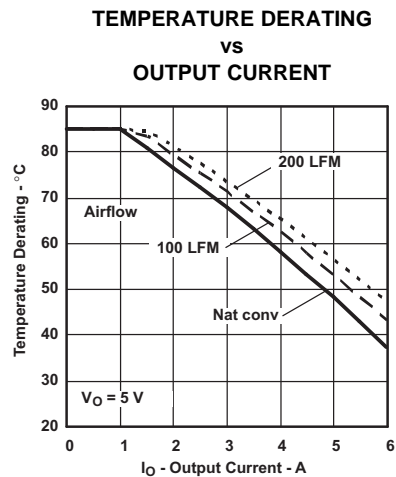
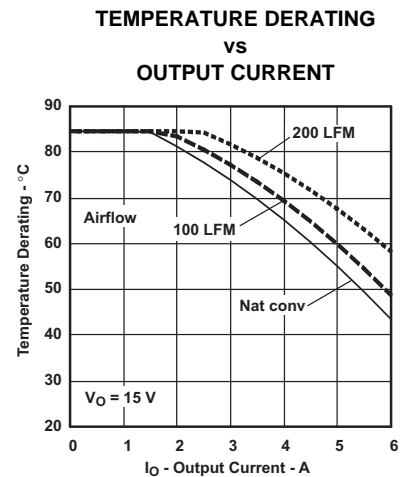

Figure 14.
Figure 16.
- (2) The temperature derating curves represent the conditions at which internal components are at or below the manufacturer's maximum operating temperatures. Derating limits apply to modules soldered directly to a 100 mm x 100 mm double-sided PCB with 2 oz. copper. For surface mount packages (AS and AZ suffix), multiple vias (plated through holes) are required to add thermal paths around the power pins. Please refer to the mechanical specification for more information. Applies to Figure 14 through Figure 16.